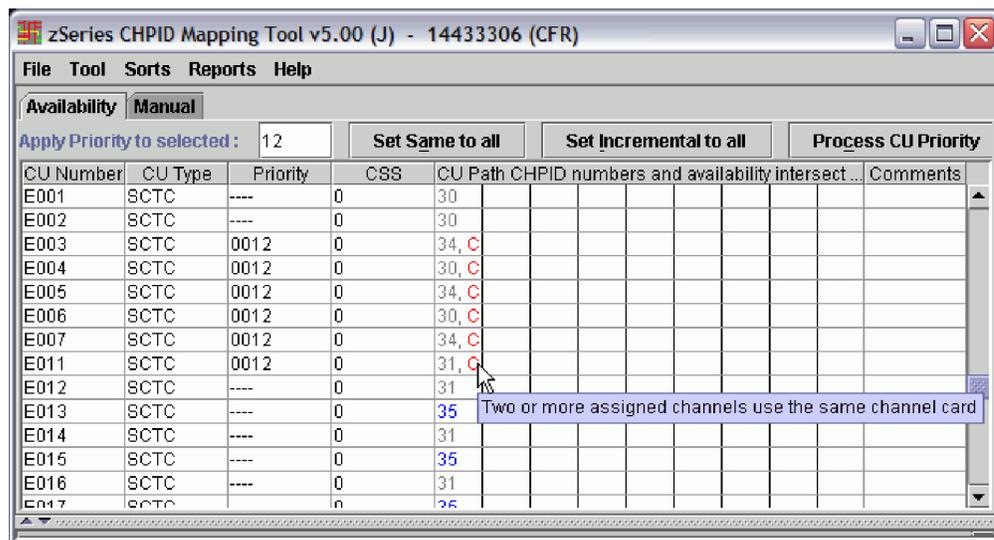

Figure 46. Pop-up Message Concerning an Intersect
- b. Move the mouse pointer over one of the CHPIDs that has a character next to it. This displays a pop-up message explaining the intersect. Figure 46 shows an example:
Remember: This simply means there is a possible availability “problem” that you might need to consider and attempt to correct. You determine this by checking the code in red (beside the CHPID number in this section). In Figure 46, for example, a “C” indicates that two or more assigned channels use the same channel card. The following is a list of intersects: